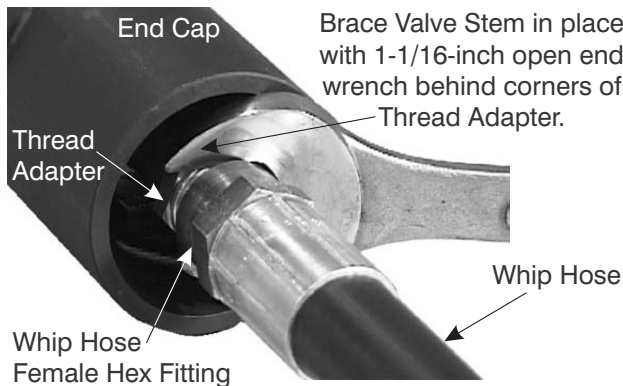

Figure 9-38. Hold Thread Adapter in Position
5. Thread the female hex fitting of the Whip Hose (10) onto the threads of the Adapter. Tighten the fitting finger tight. Refer to Figure 9-38.